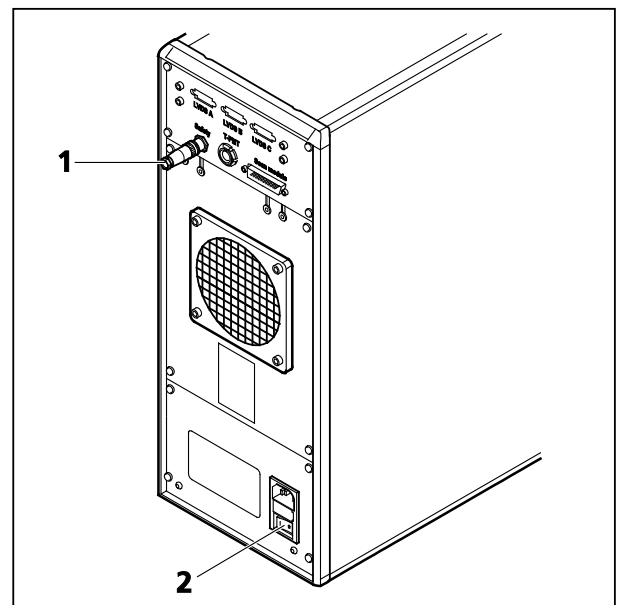

Fig. 3 Laser module (back)
- Use the main power switch (Fig. 3/2) on the back of the laser module to turn on the power of the module.
- On the back of the system there is a plastic screw (Fig. 3/1). This is a laser interlock which can be used for coupling the laser module e.g. to doors. If this screw is **unscrewed** the lasers will **not** turn on!